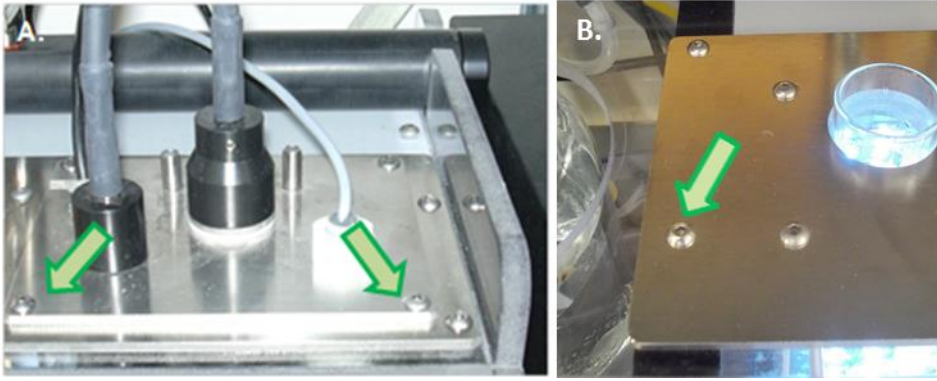

Fig. 25A) Note two out of 4 screws in the metal cover of the cooling and heating unit. B) Note one out of 8 screws in the lid of the cultivation water bath.
47. To clean the vessel, unscrew the 4 screws on the top of the small square metal cover with inlets for heater, cooler, water level sensor and remove it (Fig. 25A). Then unscrew 8 screws in the lid of the cultivation water bath with slots for cultivation vessels and remove it (Fig. 25B). Pull out the stand for cultivation vessels and water pump.